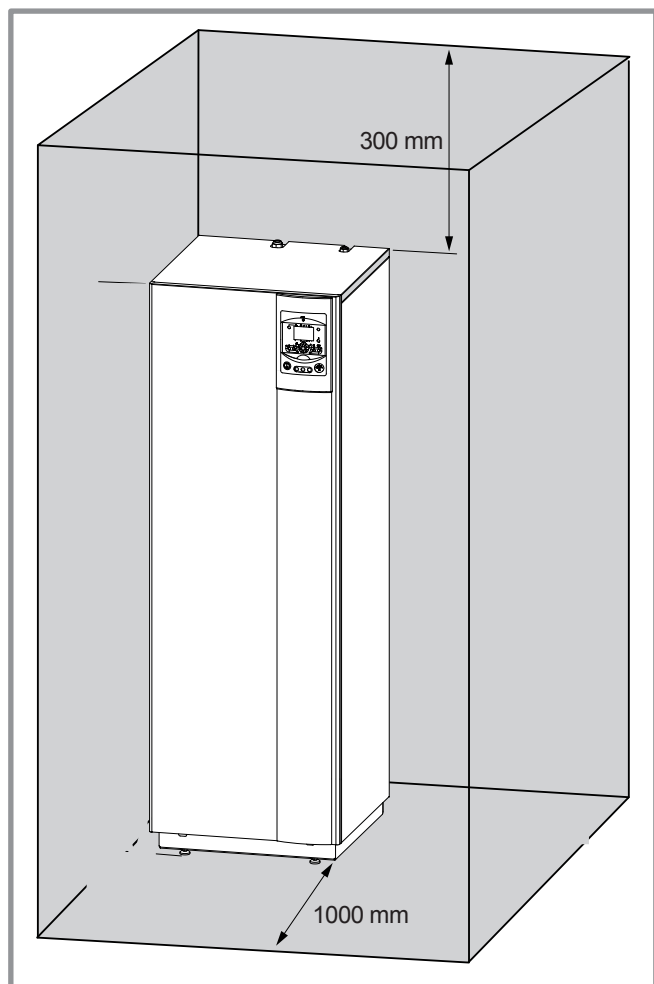

figure 14 - Minimum installation clearances around the hydraulic unit and distances to the combustible partitions
- To facilitate maintenance and to allow access to the various components, we recommend that you provide sufficient space all around the hydraulic unit (figure 14).